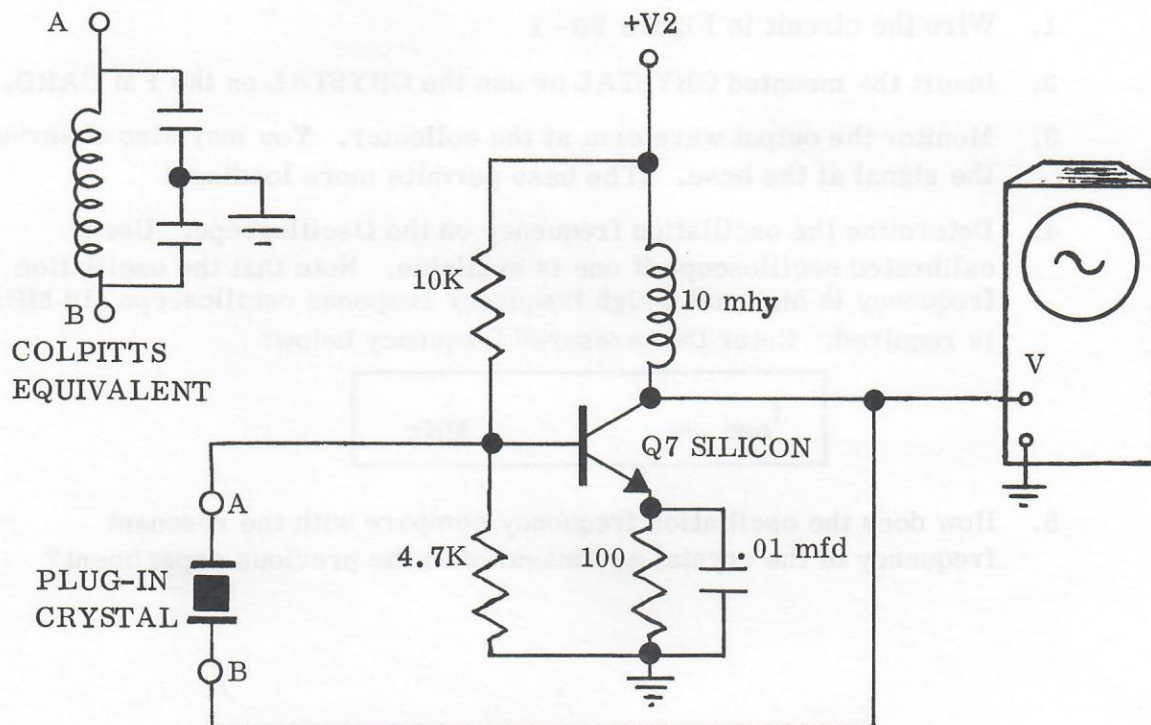

Figure 30 - 1 Pierce Crystal Oscillator - EXPERIMENT
1. Wire the circuit in Figure 30 - 1